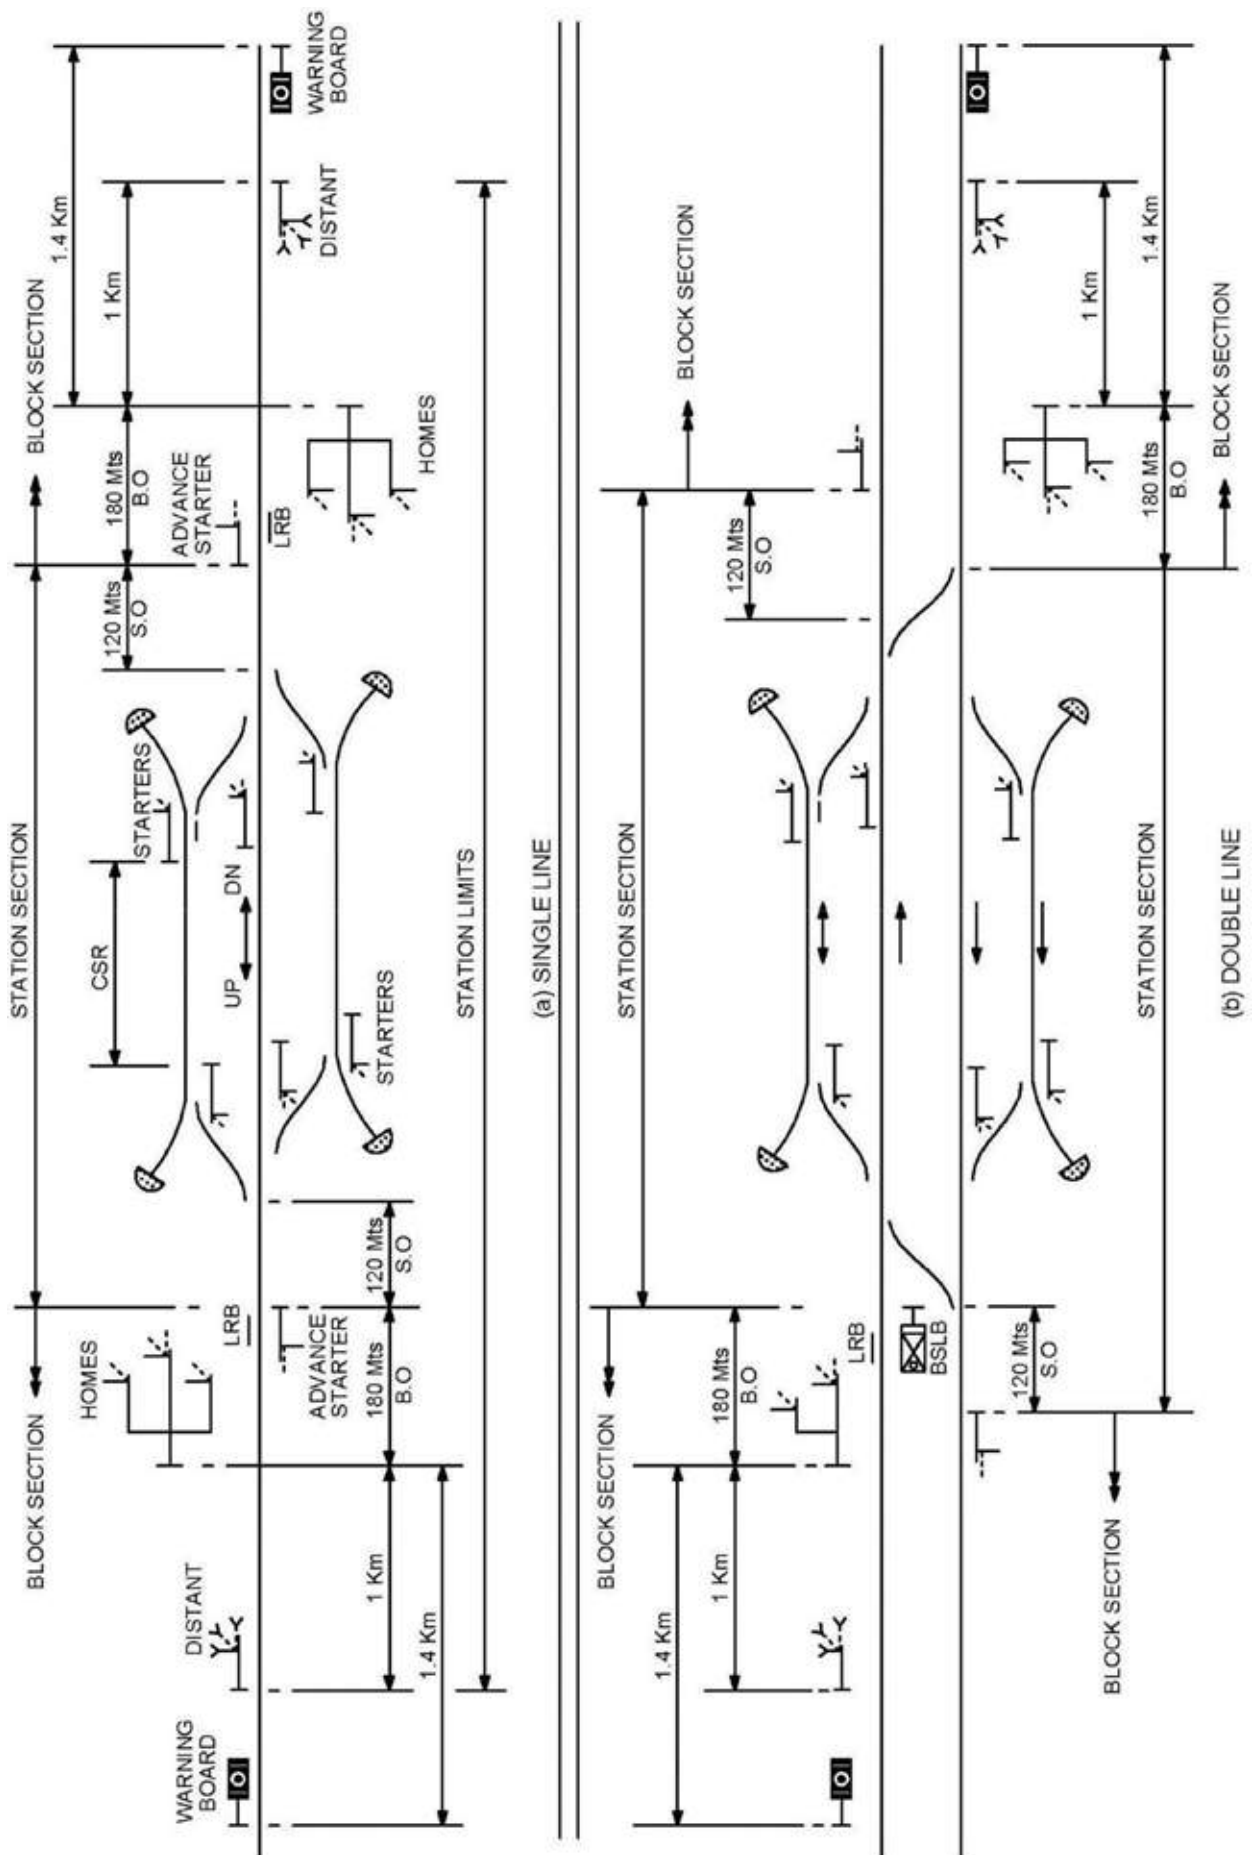

Fig: 6.3 DESIGNATION AND LOCATION OF FIXED SIGNALS IN MAUQ SIGNALLING
- (b) **HOME SIGNAL:** The Home signal is the first stop signal of the station normally placed at Normal braking distance in rear of next stop signal and 180Mts in rear of the point up to which the line may be obstructed, after the line clear has been given to the station in rear. To obtain maximum operational facility on single line, the Home signal shall be placed at not less than 300 Mts i.e. BO + SO (180 Mts + 120 Mts) in rear of the first facing point if the facility of shunting in the face of an approaching train is desired, so that BO is available between the Home and the opposite Advanced starter/SLB. Route holding is achieved by providing Lock Retaining bar (LRB) or track circuit or SM's control (See Fig 6.3 a) On double line the Home Signal may be located at a distance of BO (180 Mts) in rear of the facing point or Block section Limit Board (if first point in the approach is trailing or no point). Where two or more lines diverge the signals shall be fixed on bracketed post, or gantry. The signal which refers to main line shall be at higher level than of the loop lines (see 6.3 b)